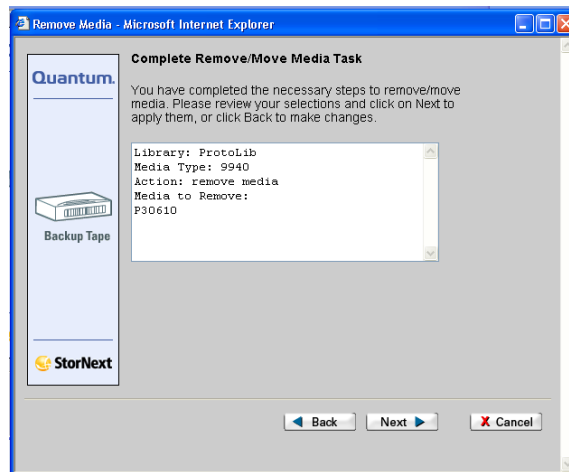

Figure 14.5-8. Complete/Remove Media Task Page
- 5 The **Completed Remove/Media Task** will appear (Figure 14.5-8).